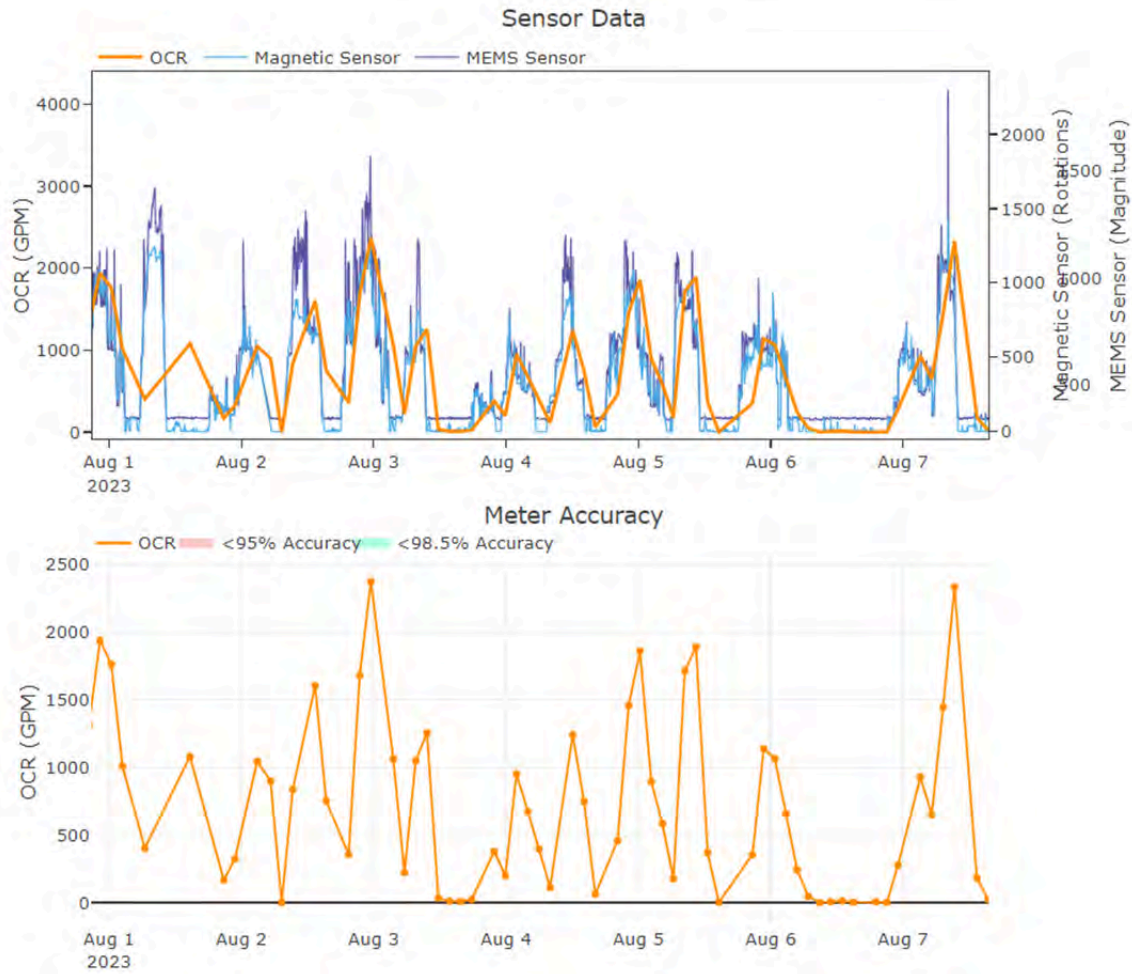

Figure 9 - 'No Problem Found' meter
- This is a single meter (Figure 9). The sensor data (flow - orange, magnetic rotations - blue, vibration - purple) is in harmony. Analysis reveals that the meter is operating within the manufacturers specifications (Figure 10) and no problem is found.